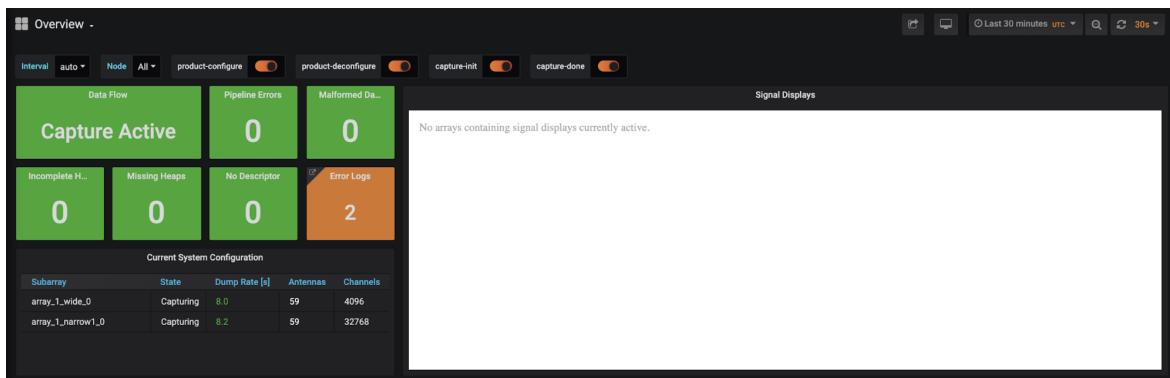

Figure 9.4: SDP Grafana dashboard
- There are other options which are available from the dashboard as shown in **Figure 9.4**.